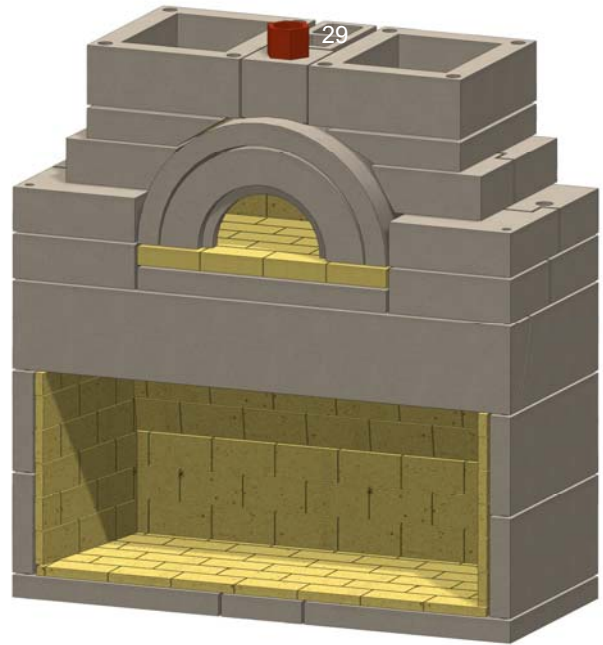

Figure 34. CMU Block
Y. Install CMU block (29) to fill in the rear void. See Figure 34.